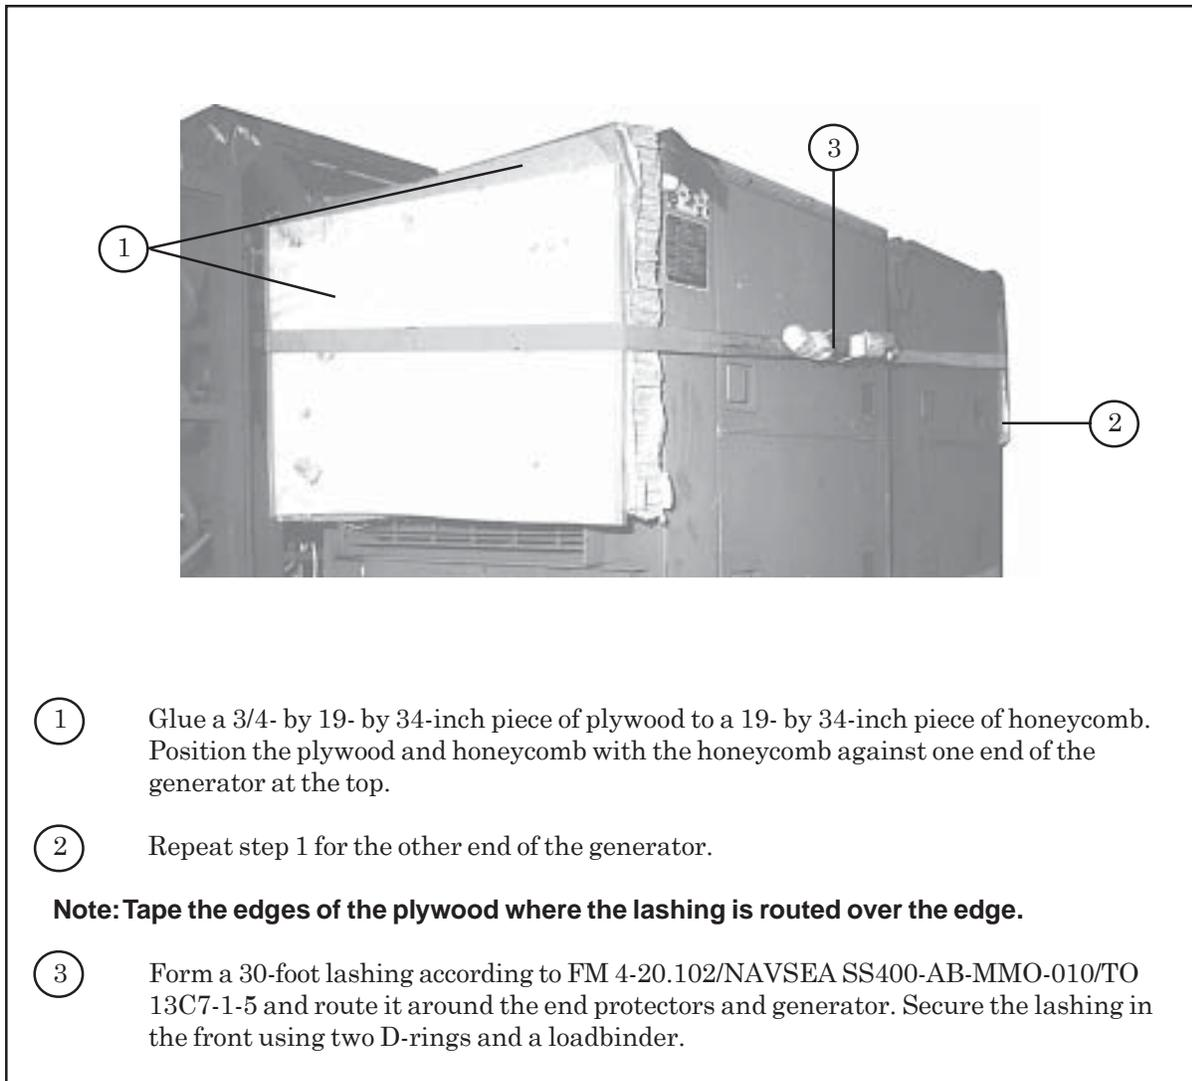

Figure 1-14. Generator Prepared
- i. Make sure the generator's fuel tank is at least 1/2 but no more than 3/4 full. Ensure hazardous materials are packaged, marked, and labeled as required by AFMAN(I) 24-204/TM 38-250 (not shown).
- j. Prepare the generator as shown in Figure 1-14.